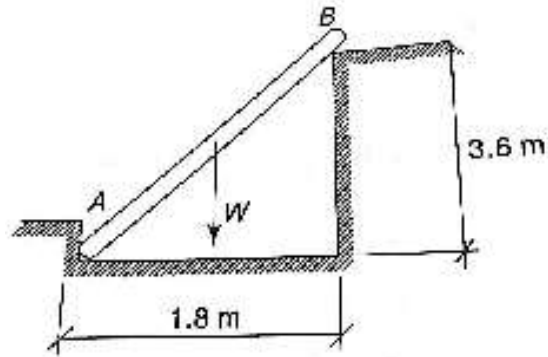

Figure 2.10
11. A man with weight 667.5 N stands on the middle rung of a 227.5 N ladder, as shown in Figure 2.10. Assuming the end B rests on the corner of a wall and a stop at A to prevent slipping, find the reactions at A and B.